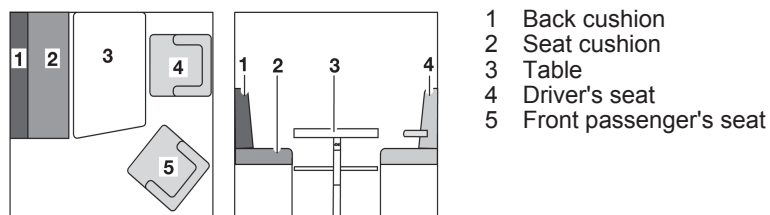

Fig. 57 Prior to conversion
- Turn the driver's seat (Fig. 57,4) so that the backrest faces the driver's door.
- Turn the front passenger's seat (Fig. 57,5) so that the backrest faces the front passenger's door.
- Convert the table (Fig. 57,3) to a bed foundation (see Section 7.7).